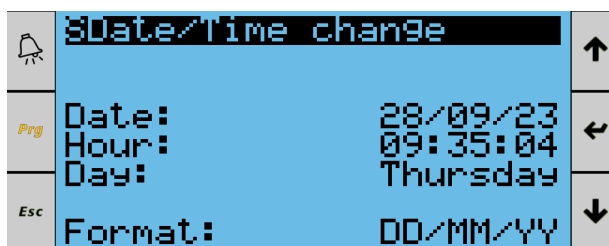
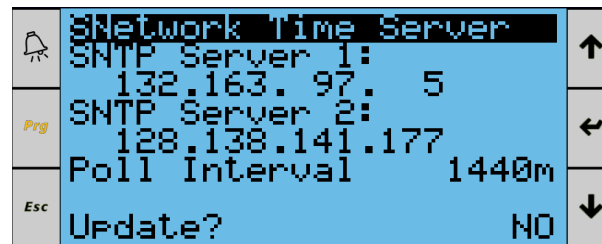

Figure 77. Settings Menu, Date/Time, Page 1
Figure 79. Settings Menu, Date/Time, Page 3
18. Set/validate date and time information shown in **Figure 77** through **Figure 79** below.